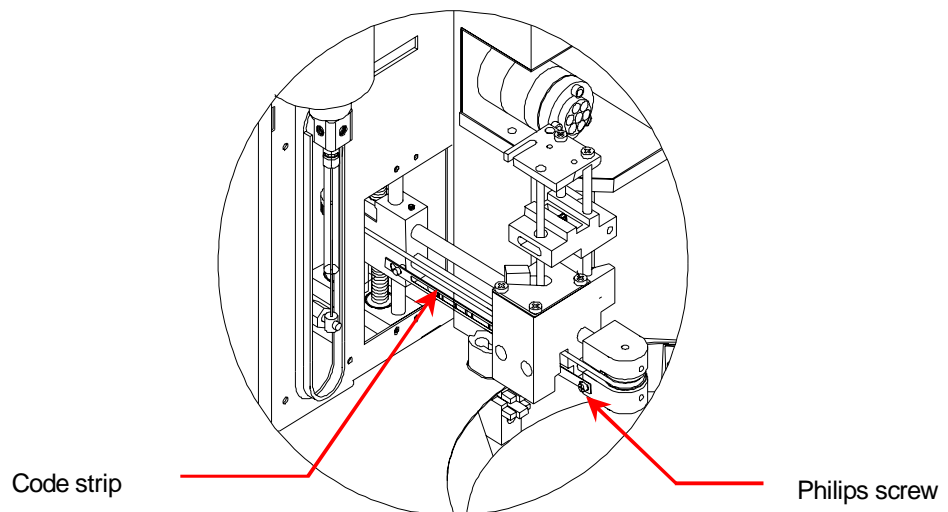

Fig. 8. Positions of code strip and adjustment screw.
2. Loosen the Philips screw as marked in Fig. 8 on the left side of the needle arm 1 turn.